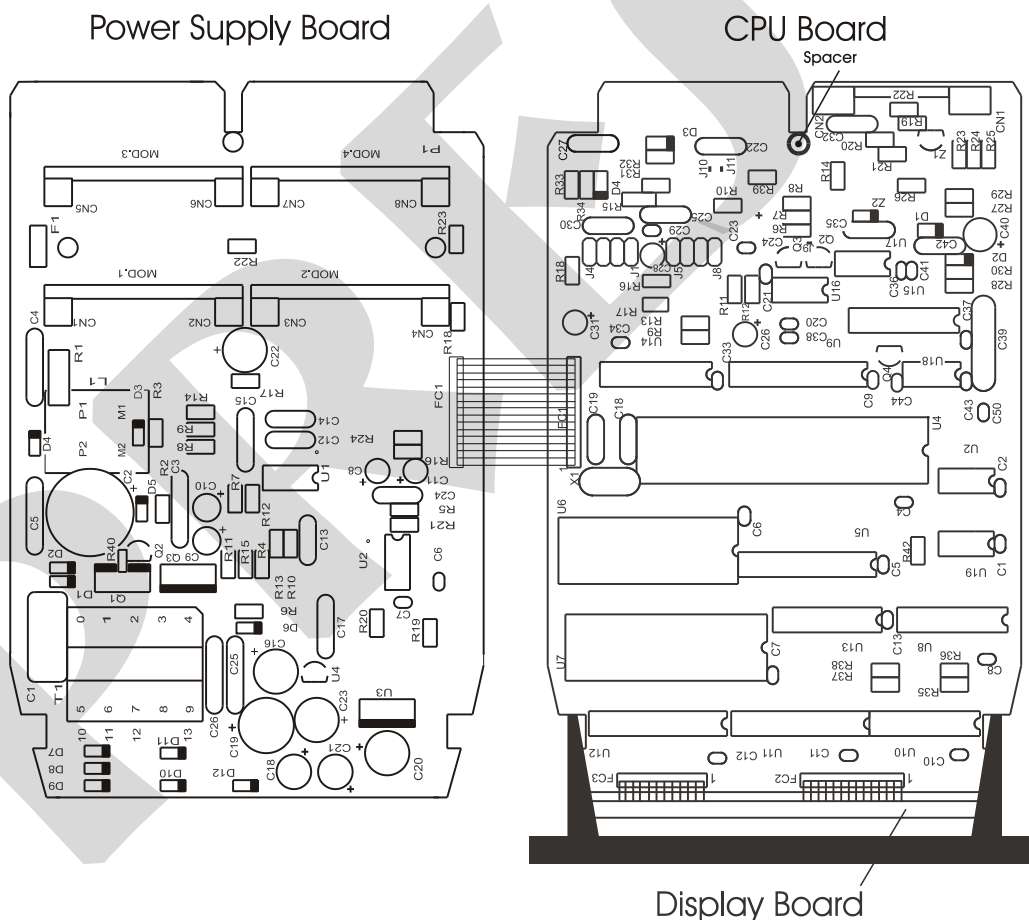

Fig. 16 - Instrument Hardware
- Disengage the upper circuit board toward the right and open the circuit boards as shown on figure 16.